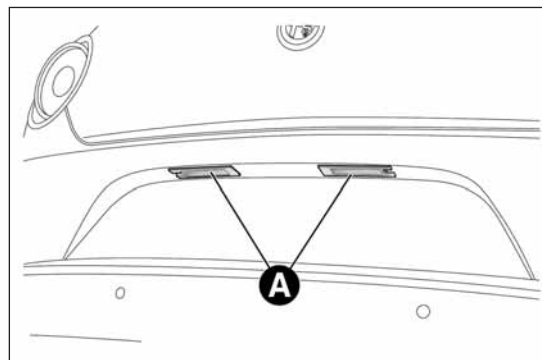

fig. 139
- ☐ remove the number plate light units fig. 139;